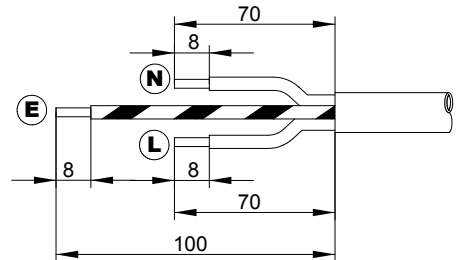

Fig. 14
2. Strip and prepare the cable sheath and insulators as shown in Fig. 14.